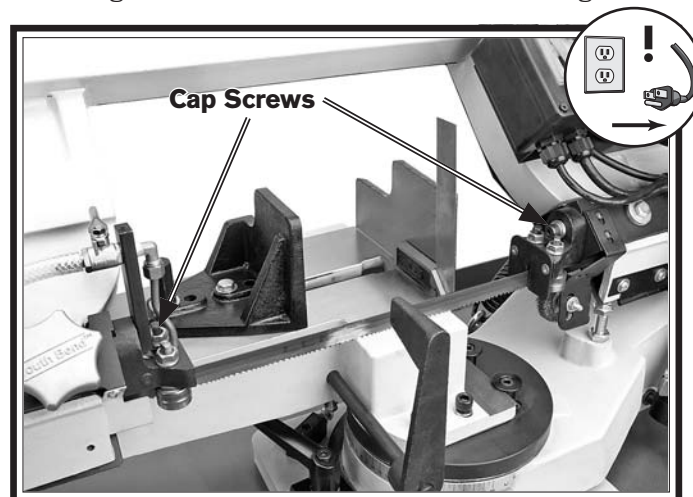

Figure 41. Squaring the blade.
3. Place a square on the table bed and against the edge of the blade, as shown in **Figure 41**, then check different points along the length of the table between the blade guides.
4. If the blade is not square to the table, loosen the cap screws shown in **Figure 41** and rotate the blade guide bearing assemblies as necessary until the blade is perpendicular to the bed, then re-tighten the hex bolts.